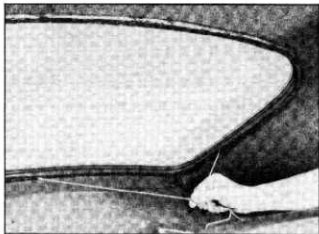

Fig. 24—Pull Inner Lip of Channel Over Pinch-Weld
- Install the glass and rubber channel into the window opening with string accessible from inside body. With either a helper or masking tape holding the back window assembly firmly to the opening, use the string from inside the body to pull the inner lip of rubber channel over the pinch-weld (fig. 24).